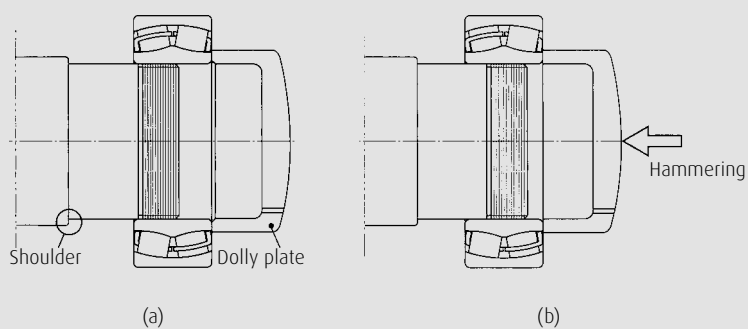

Fig. 6.1 Hammer method
6.2.1 Hammer Method (Fig. 6.1)
3. After inserting the bearing, make the contact as even as possible between the chamfered part of inner ring end face of bearing and the bearing mounting place of shaft. The aim is even contact between the flat face of the dolly plate and the end face of the inner ring on the shaft. **(Fig. 6.1 (a))**
4. When the flat face of the dolly plate is perpendicular to the shaft center, use a hammer to tap the top of the dolly plate on the hammering side. **(Fig. 6.1 (b))**